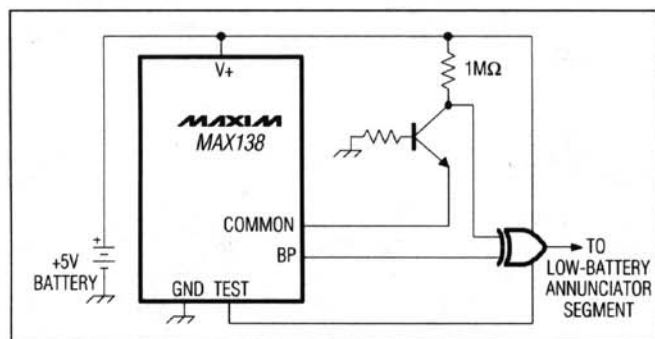

Figure 6. Low-Battery Detector and LCD Segment Drive
Since the voltage between COMMON and V+ is between +2.95V and +3.15V until the voltage between V+ and V- falls to less than +4V, a simple low-battery detector can be made using a transistor voltage detector as shown in Figure 6. When Q1 is off, the low-battery segment is driven in phase with the backplane off. When Q1 turns on, the low-battery LCD segment becomes visible. Q1 turns on when the voltage at the base of Q1 is one base-emitter voltage more positive than COMMON voltage.
4. If the input-signal polarity is reversed from the desired polarity, use the minus segment to drive the vertical bar of a plus sign and (using one of the decimal-point driver circuits of Figure 6) to permanently turn on the horizontal bar of the plus sign. When the MAX138/139/140 measures a negative polarity, a "+" will be displayed. When the MAX138/139 measures a positive polarity, a "-" will be displayed. (Normal operation of the MAX138/139/140 is no polarity indication for a positive input and a "-" sign for a negative input.)